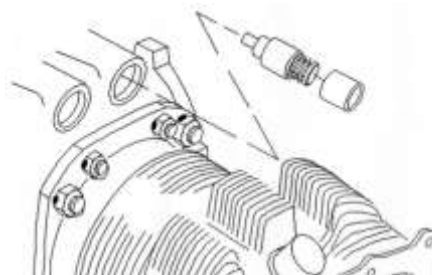

Figure 33
- (1) For each of the two shroud tubes, install the plunger assembly and hydraulic socket in the tappet body in the crankcase (Figure 33).
- (2) Apply engine oil mixture (15% pre-lubricant (STP or equivalent) and 85% SAE No. 50 mineral base aviation grade lubricating oil) to all four of the shroud tube oil seals, two for each shroud tube.